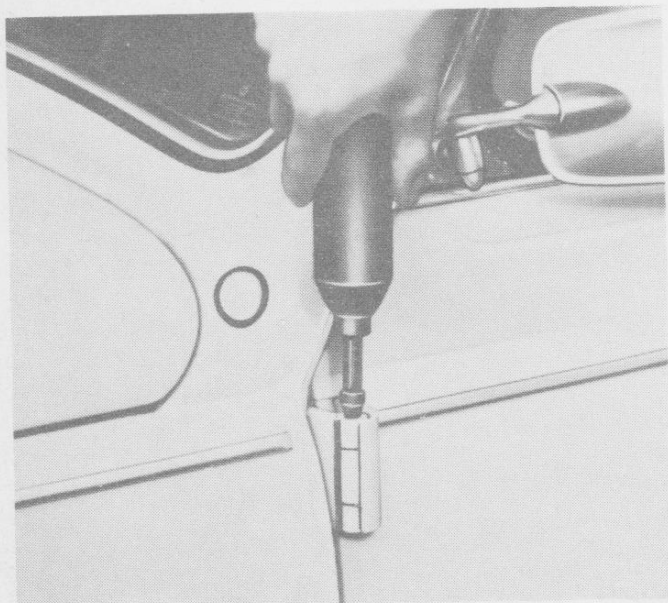

Fig. 1
– Figs. 1 and 2 –
Figs. 1 and 2